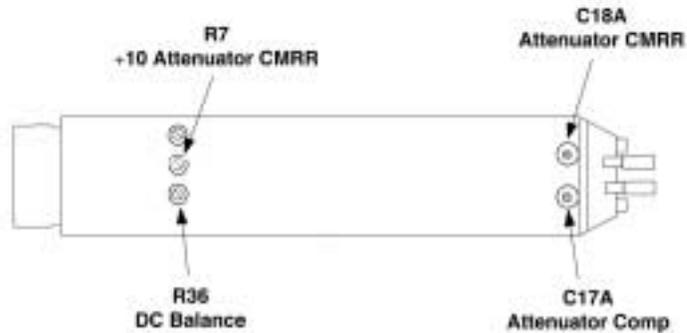

Figure 10. Probe Tip Adjustment Locations
7. Adjust **DC Bal** (R36) on the probe tip (Figure 10) to obtain a DMM reading of  $0\text{ V} \pm 10\text{ mV}$ .
12. Adjust **+10 CMRR** (R7) for minimum amplitude. (See Figure 10 for location.)
8. Adjust **Attenuator Comp** (C17A) for a flattop waveform. See Figure 10 for adjustment location.